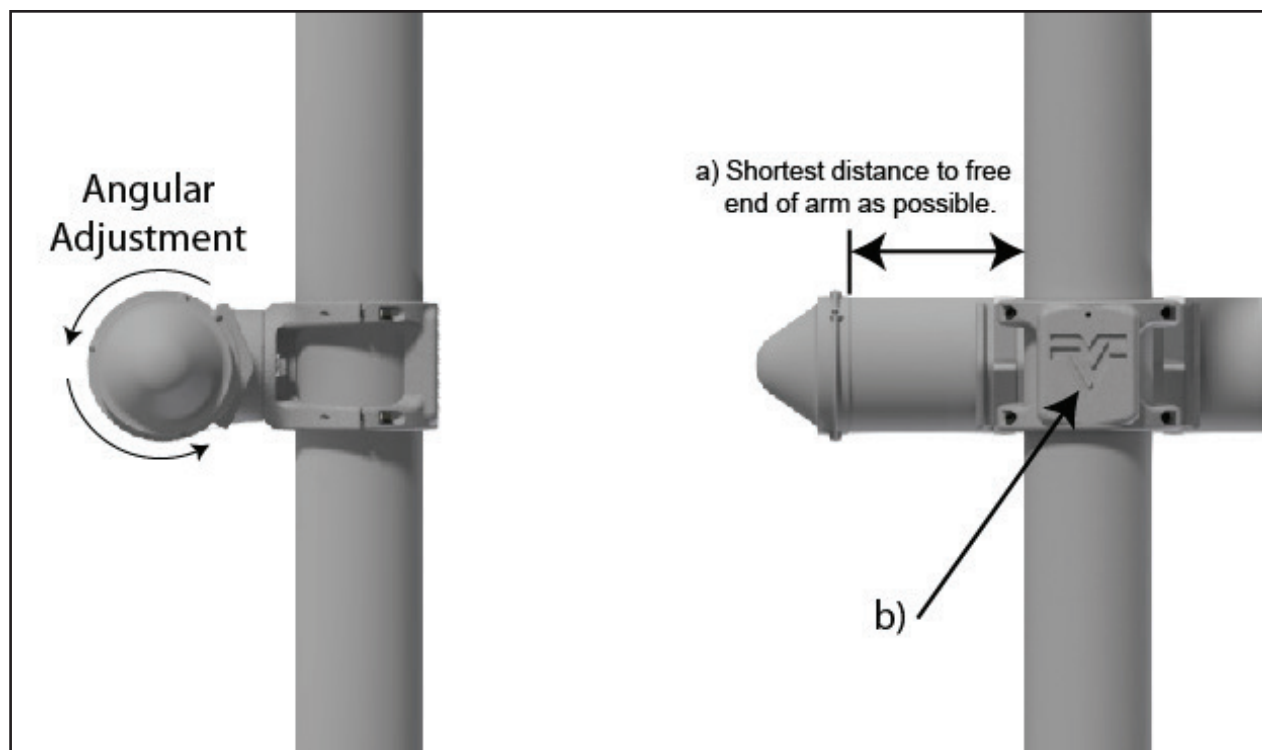

Figure 2
2) REMOVE THE CLAMP FROM THE BOX AND BAND THE CLAMP ONTO THE ARM USING 3/4" TO 1-1/4" HEAVY DUTY STAINLESS STEEL BANDS (NOT INCLUDED) AND CHECK FOR THE FOLLOWING: (See figure 2)